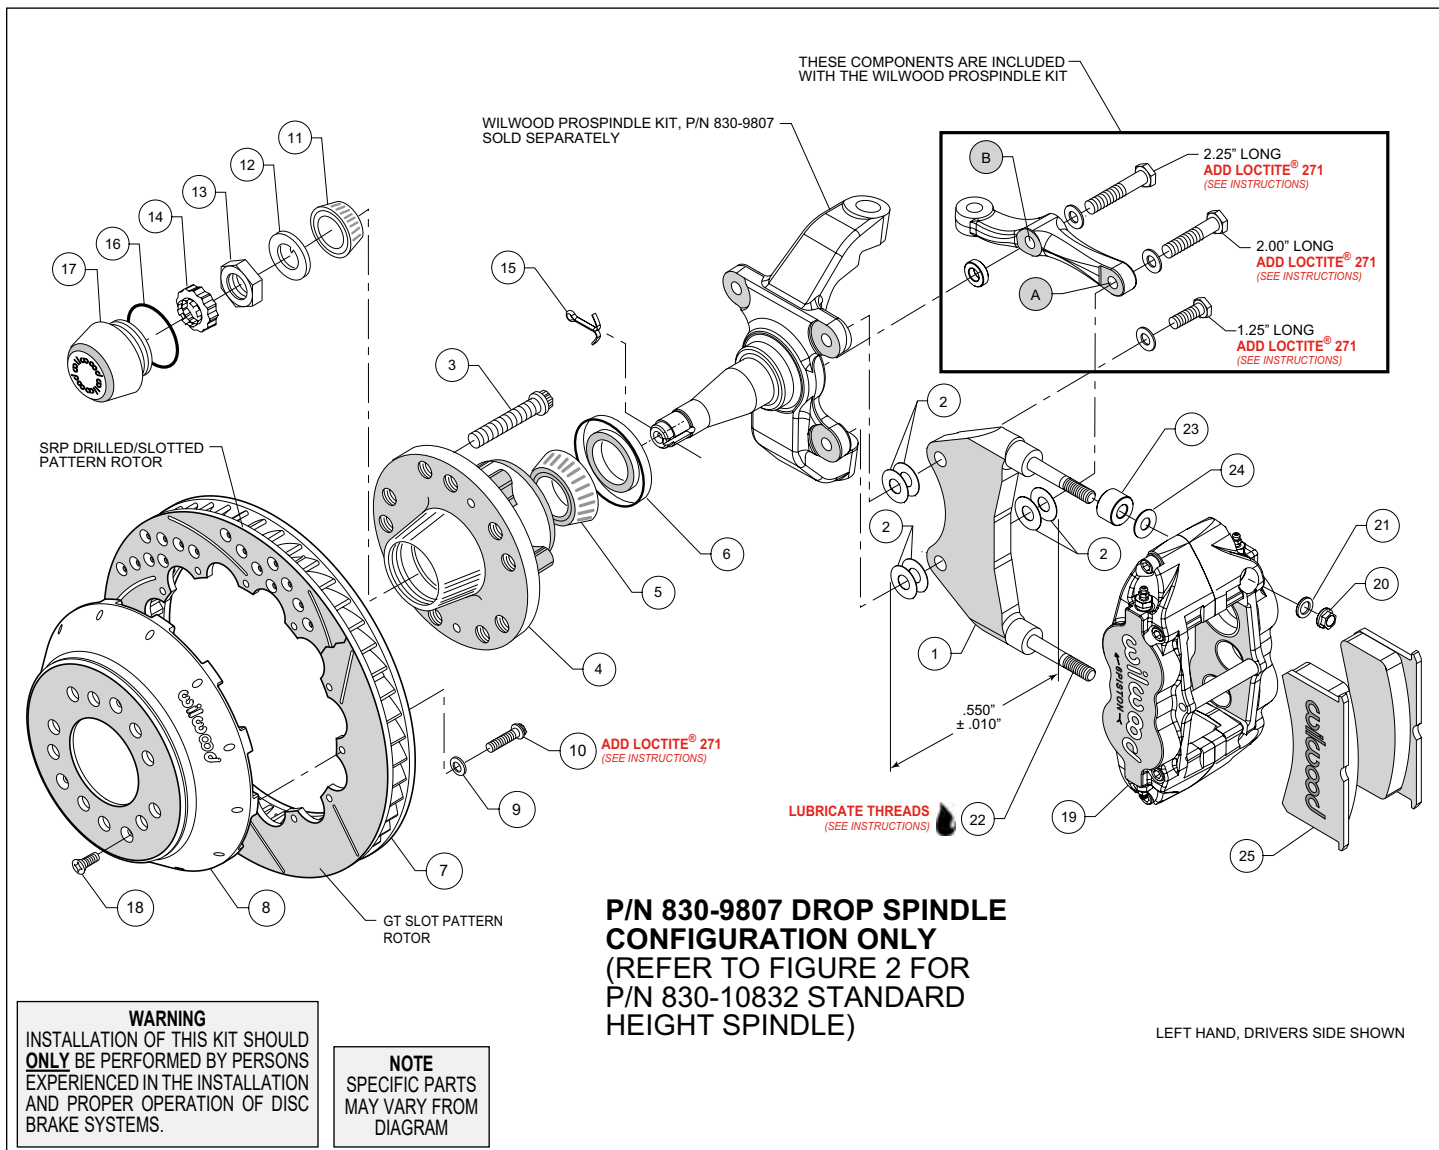
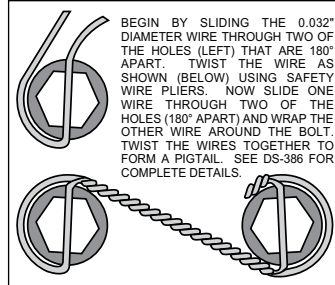

Figure 1. Installation Configuration For Drop Spindle, P/N 830-9807
Figure 4. Safety Wire Diagram
NOTE: Numbers in parenthesis refer to the parts list and Figure 1 on the preceding pages.
•NOTE: Each Wilwood ProSpindle kit includes bolts, washers, and a spacer to mount the steering arm and caliper bracket. The various bolts are identified by length in the following instructions and in Figures 1 and 2.
- Orient the bracket as shown in Figure 1 and Photo 1. Install at top spindle hole using 1.25" long bolt and .06" thick washer (from ProSpindle kit), and two .016" thick shims (2) between the bracket and spindle, Figure 1.
- Orient the steering arm, and identify the hole marked 'A', as shown in Figure 1. Install at bottom spindle hole using 2.00" long bolt and .06" thick washer (from ProSpindle kit), two .016" thick shims (2) between the bracket and steering arm, and another two .016" thick shims (2) between the bracket and spindle, Figure 1. The bracket is located between the steering arm and spindle. **NOTE:** The bracket and shim washers must add up to a total thickness of .550" ± .010", Figure 1.
- Finish attaching the steering arm through the hole marked 'B', as shown in Figure 1. Install using 2.25" long bolt, .06" thick washer, and .25" thick spacer (all from ProSpindle kit), Figure 1.
- Screw dust cap (17) into hub (4). Friction created by the o-ring (16) on the dust cap keeps it from unscrewing.
- Orient the rotor (7) and the hat (8) as shown in Figures 1 or 2, and Photo 6. Attach rotor to hat using bolts (10) and washers (9). Using an alternating sequence, apply red *Loctite*® 271 to the threads, and torque to 155 in-lbs. For an added measure of security, the bolts may be safety wired using standard 0.032 inch diameter stainless steel safety wire as shown in Figure 4. Refer to Wilwood's data sheet DS-386 (available at www.wilwood.com/Pdf/DataSheets/ds386.pdf) for complete safety wire installation instructions.
- Slide the hat/rotor assembly (8 and 7) onto the hub (4) taking care to align the small countersunk holes in the hat with the small threaded holes in the hub. **NOTE:** The hat must fit flush against the hub face or excessive rotor run out may result. Install three flat head screws (18) through the small holes in the hat (8), and torque to 85 in-lb.
- **NOTE:** This kit contains distinct right and left hand calipers that must be mounted in a specific direction, as described below. Lubricate the caliper mounting studs (22) with lightweight oil. Initially place one .035" thick shim (24), and spacer (23) on each stud as shown in Figure 1 or 2, and Photo 7. Mount the caliper (19) onto the bracket (1) using lock nuts (20) and washers (21), Figure 1 or 2. Ensure that the caliper is mounted so that the largest pistons are at the rotor exit end of the caliper, in relation to the direction of rotor rotation. Temporarily tighten the lock nuts and view the rotor through the top opening of the caliper. The rotor should be centered in the caliper, Photo 8. If not, proceed as follows:
- Adjust by adding or subtracting shims (2) between the bracket and the spindle. Always use the same amount of shims on each of the two bolts between bracket and spindle.
- For the lower bracket mount bolt, if a shim was added between the bracket and spindle, then a shim must be removed between the steering arm and bracket, such that the total thickness of bracket and shims remain equal to $.550 \pm .010$ ", Figure 1.